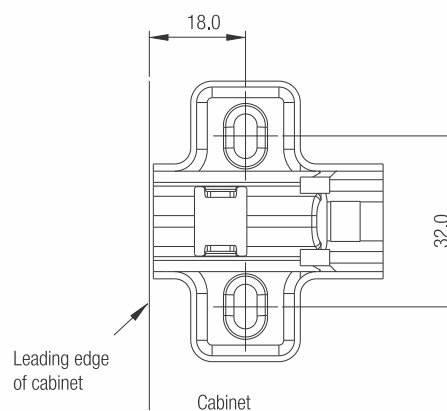

Fig.2
3. Mark holes in the cabinet for mounting plate as per Fig. 2 and screw on the mounting plate.